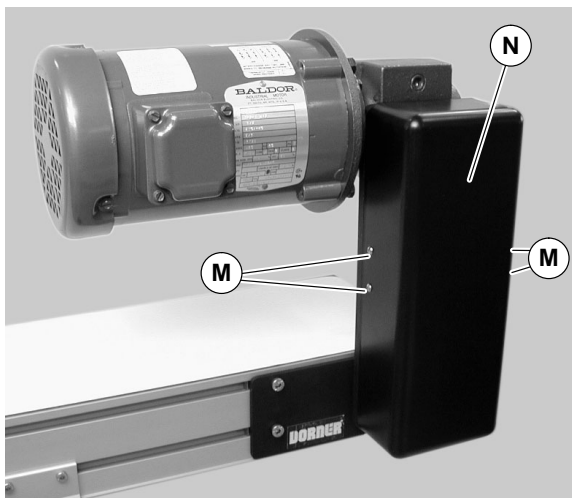

Figure 14
- a. Remove four (4) screws (M of Figure 14) and cover (N).